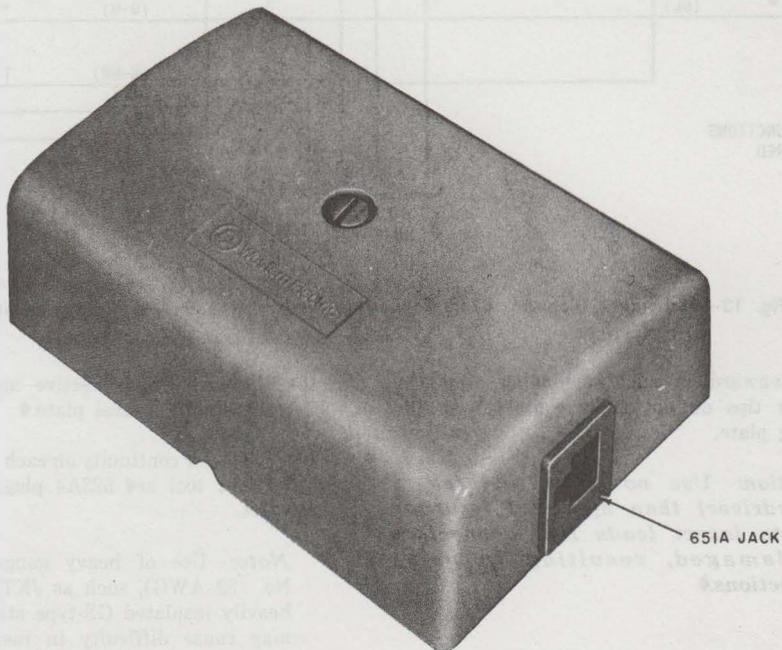

Fig. 12—635B Connecting Block
2.14 The **635B** connecting block (Fig. 12) which replaces the 635A connecting block is used
to permit company-owned and customer-provided equipment using the D8AA mounting cord to be placed in series with telephone company equipment. This connecting block is equipped with a 651A series-bridged jack and a 10-position terminal board (Fig. 12 and 13).